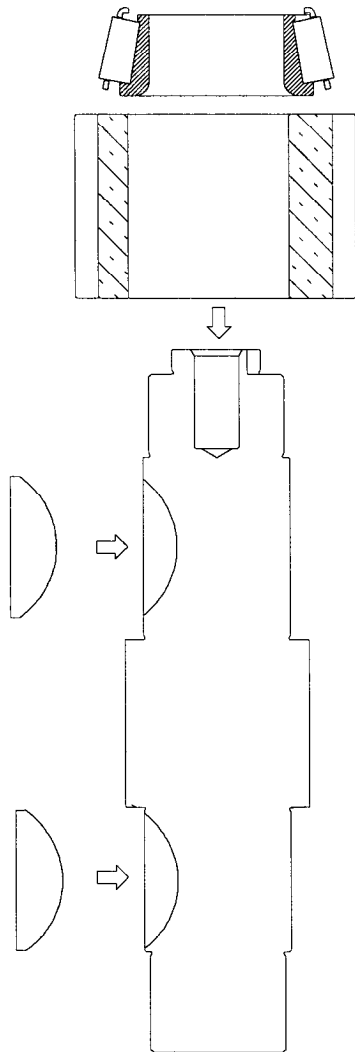

Fig. 43
3. Install the intermediate underdrive gear and bearing cone onto the intermediate shaft end with the hole. See Fig. 43.